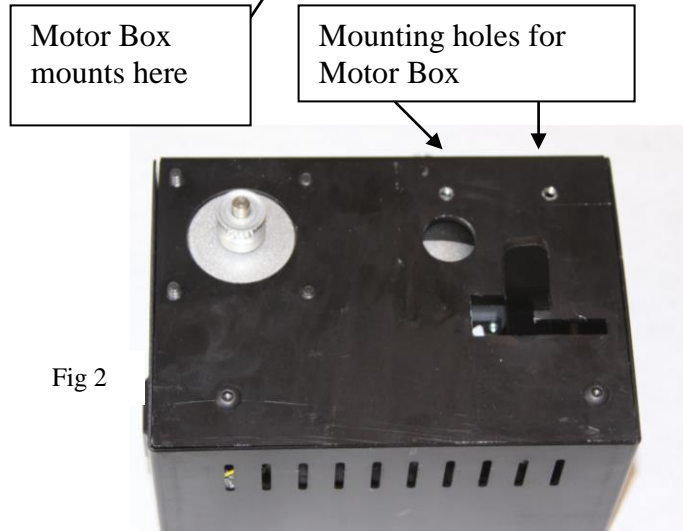

Fig 2
2. It is important when attaching the bracket that the 2 empty holes for the motor box are on the inside left of the carriage (if at the front of the carriage) (*Fig 2*)